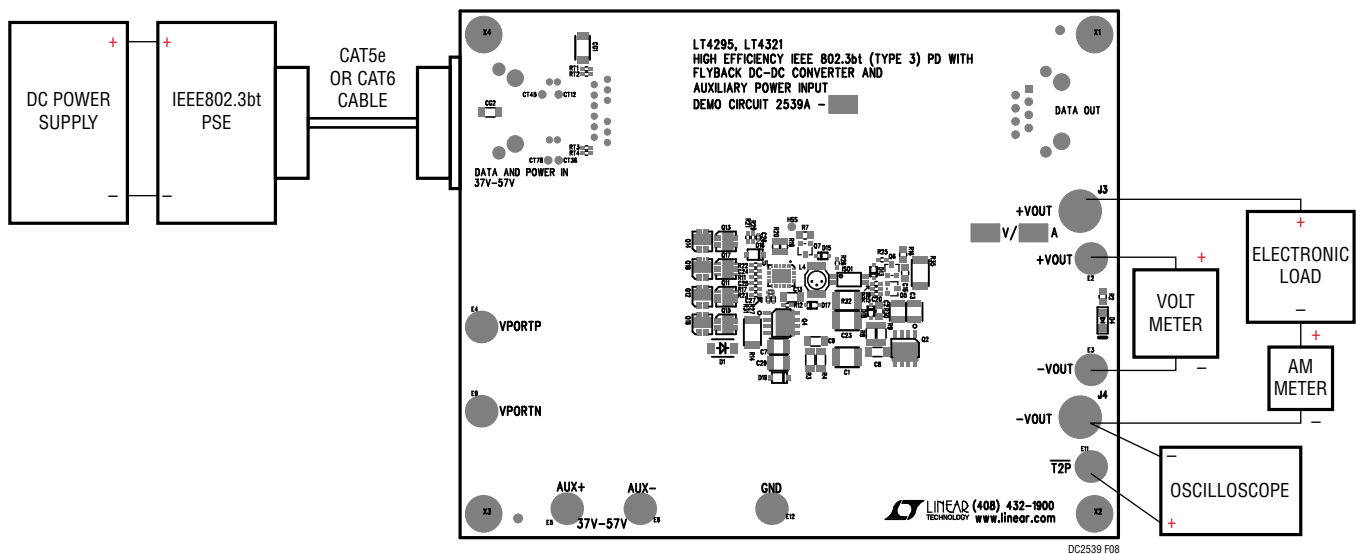

Figure 8. Setup Diagram for PoE Input
- 2 Place and connect test equipment (voltmeter, ammeter, oscilloscope, and electronic load) as shown in Figure 8.
- 7 Verify  $\overline{T2P}$  response with an oscilloscope as shown in Figure 8. The  $\overline{T2P}$  response to the type of PSE connected to the DC2539A-A is provided in Table 1.